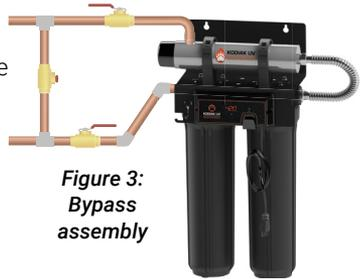

Figure 3:
Step 2: The use of a by-pass assembly is recommended as it will allow you to isolate the UV chamber. This will allow for easier access in case maintenance is required (See Figure 3)